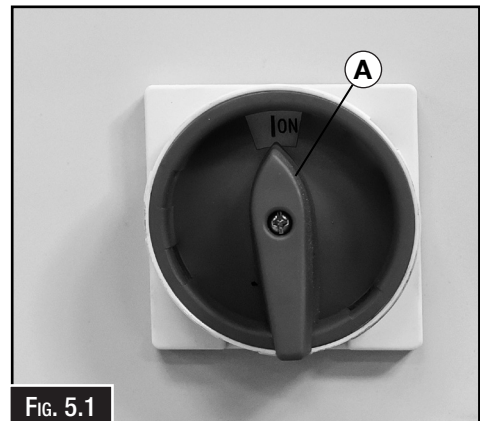

FIG. 5.1
- A Main Isolating Switch:** Isolates the power from the machine. (Fig 5.1)